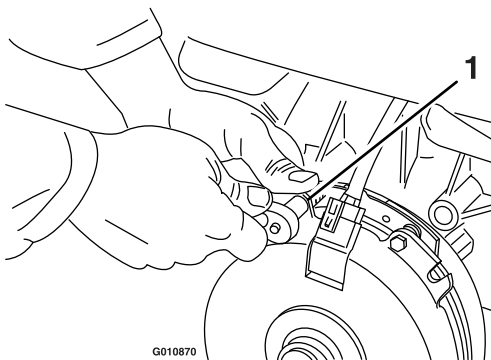

Figure 69
- A. Loosen both brake-mounting bolts 1/2 to 1 full turn as shown in Figure 69.